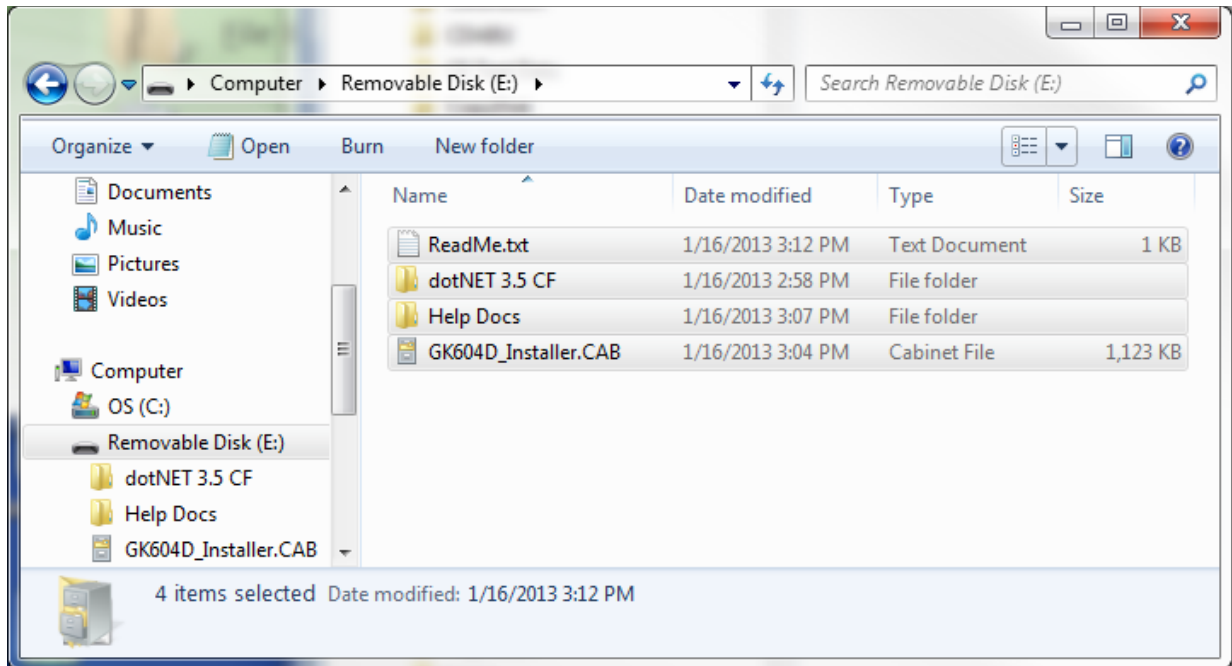

Figure 23 - Installation Folder Contents
- 3) Unzip the GK-604D Installer (downloaded from GEOKON's website), open a Windows Explorer window, and then navigate to the root folder of the Installation folder (Figure 23).
If the application fails to launch and the message, “This application requires a newer version of the Microsoft .NET Compact Framework than the version installed on this device”, is displayed then the .NET Compact framework that is included in the installer “Zip” file should be installed. The .NET Compact Framework installer is called “NETCFv35.wm.arm4i.cab” and is located in a folder called “dotNET 3.5 CF” (see Figure 23). Installation is very similar to installing the GK-604D IRA.